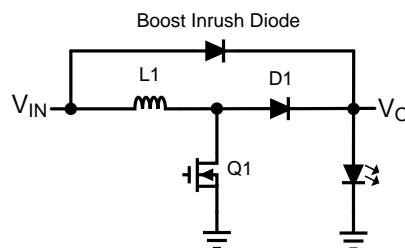

Figure 35. Boost Topology with Inrush Diode
- Add an inrush diode from V_{IN} to the output as shown in Figure 35.